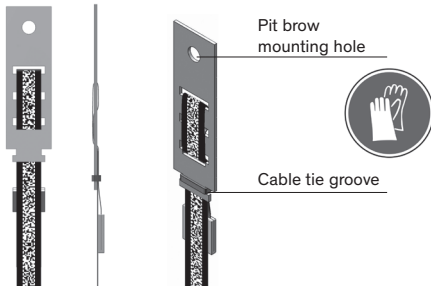

Figure 25: Top tension lock
2. Straighten the code tape. Fasten it with a cable tie around the tension lock (Figure 25).